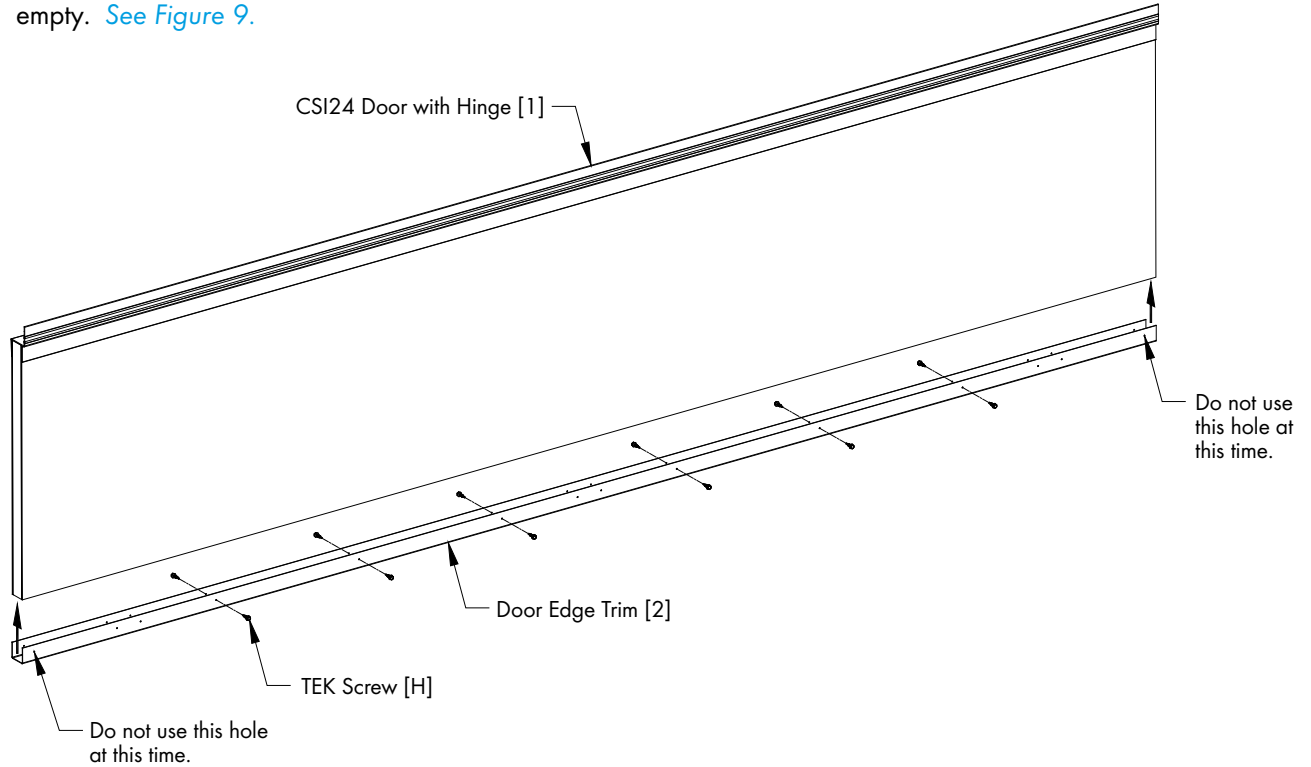

Figure 9
Slide Door Edge Trim [2] onto the bottom edge of the CSI24 Door [1] and secure it with (12) TEK Screws [H] through the (6) single holes in the middle area of the Door Edge Trim, leave the left most and right most holes empty. See Figure 9.